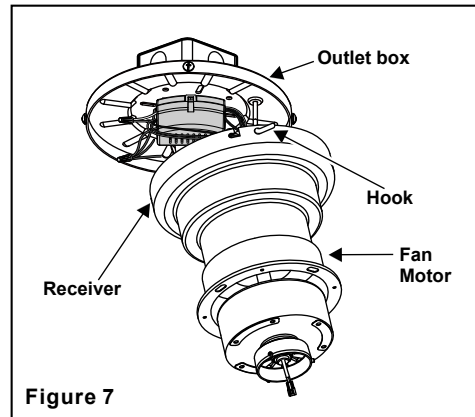

Figure 7
Step 1. Hang fan motor assembly to the hook from mounting bracket. (Fig. 7)